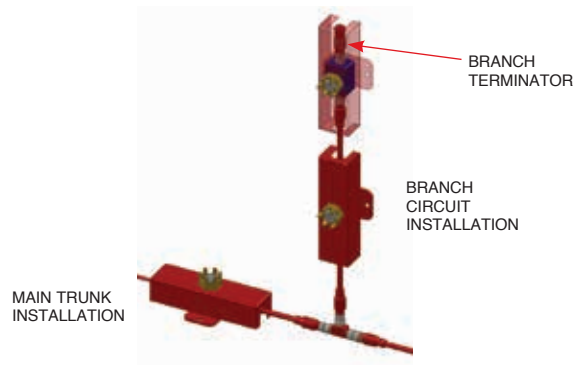

FIGURE 5-32
- 3. Spot Thermal detectors can be installed in main trunk of detection circuit or on a branch circuit using a Detection Circuit Tee and Detection Circuit Cable. If installed on a branch circuit, a Detection Circuit Branch Terminator (Part No. 439398) must be connected to the last detector. See Figure 5-32.